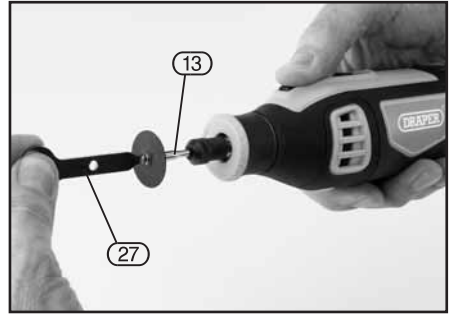

FIG.5
8.5 FITTING A CUTTING/SANDING DISC - FIG. 5